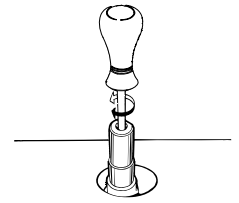

fig.5
- Remove the tap knob and turn the adjusting screw, situated inside of the tap stem (fig.5), using a screwdriver (loosening the screw increases the height of the flame, tightening decreases it).